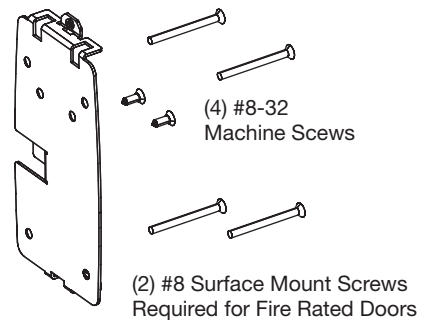

Fig. 10a
- Tilt the module upward and secure the top two tabs into the mounting plate (Fig. 10a).